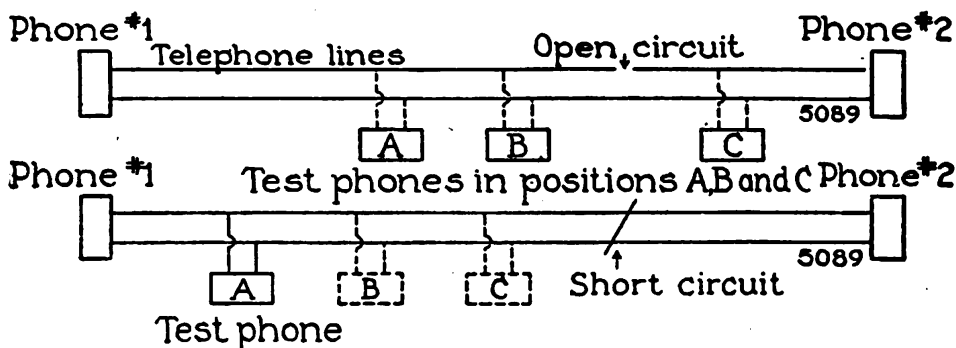

FIGURE 27.— Above: Test for open circuit. Below: Test for short circuit.
*Q.* Explain the tests indicated by figure 27.—*A.* Test No. 1 shows how an open line is located. At positions *A* and *B* the tester can talk to telephone No. 1. At position *C* the tester cannot talk to telephone No. 1 but can talk to telephone No. 2, therefore the open line must lie between positions *B* and *C*. Test No. 2 shows how the approximate location of a short circuit may be obtained. As the tester moves from position *A* toward the short circuit, conversation with telephone No. 1 becomes more and more difficult. Depending on the type of line and the character of the short circuit, this test may or may not be possible of satisfactory accomplishment.
- (1) Ringing substation or party.
- (2) Talking to substation or party.
- (3) Test for short circuits.
- (4) Test for grounds.
- (5) Test for crosses on lines carrying current.
- (6) Test for crosses on other lines.
(7) Measuring voltage of auxiliary batteries.